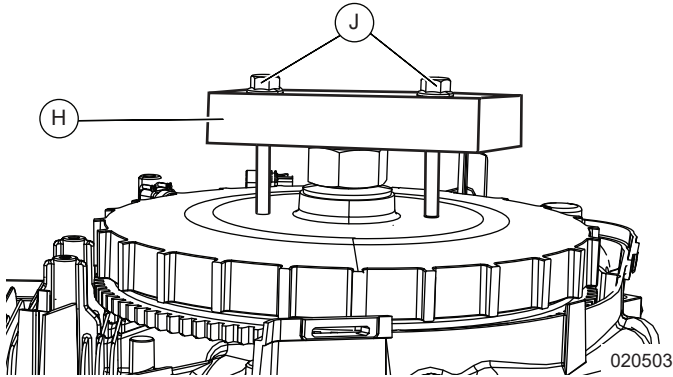

Figure 6-23. Install Flywheel Puller
- See Figure 6-23. Install flywheel puller (H) using two M8 x 1.25 mm flywheel puller bolts (J).